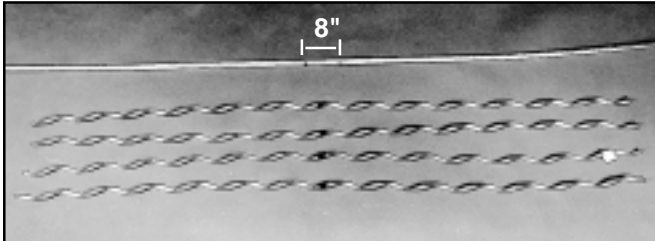

FIGURE 2 - CENTER COLOR CODES WITHIN AN EIGHT INCH AREA
3.01 Locate the area of damage on the OPGW to properly position the Repair Rods. Each Repair Rod subset has a color code placed at the center. Each subset color code must be centered in the damaged area on the OPGW. This localized area of damage should be confined within an 8" (200 mm) length under the repair rods. (Figure 2)